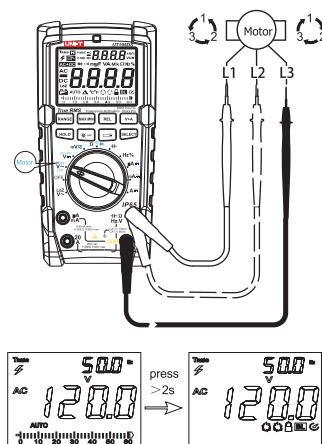

Figure 2
4. MOTOR Phase Sequence Measurement Function (See Figure 2)